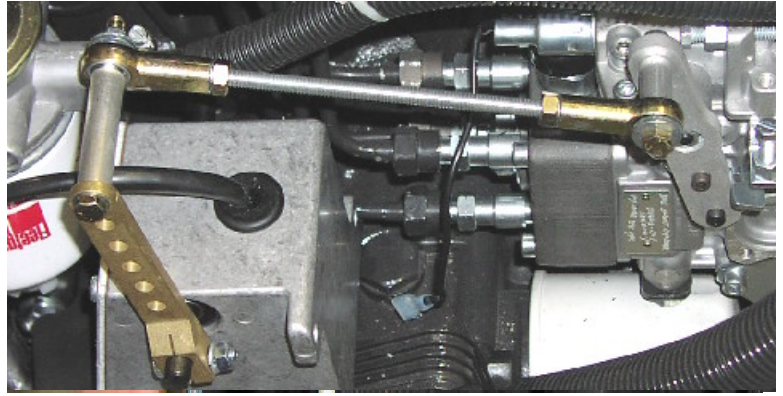

Figure 6 - Linkage Assembly
Insert the M6 x 75 Bolt (15) through the last hole of the Actuator Lever (9) as shown in Figure 6. Next, slide the Long Spacer (17) onto the bolt followed by one end of the Linkage Assembly (14), Flatwasher (13b), IT Lockwasher (19) and Nut (11b).
Insert the Flatwasher (13b) onto the M6 x 45 Bolt (16) followed by the other end of the Linkage (14). Put the Short Spacer (18) on the bolt and insert the bolt through the Run/Stop Lever Adapter (5) followed by an IT Lockwasher (19) and Nut (11b). See Figure 6. Tighten both Linkage bolts to 120in-lb. Slide the Linkage assembly back and forth a couple of times to insure smooth operation.